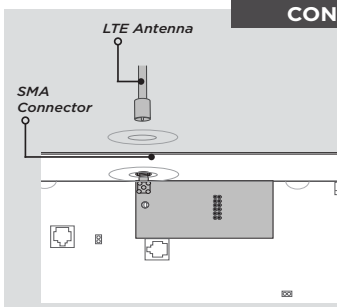

Figure 4: XT Series Control Panel
2. Connect the 263LTE SMA connector to the included antenna at the hole in the top of the panel. See Figure 4.